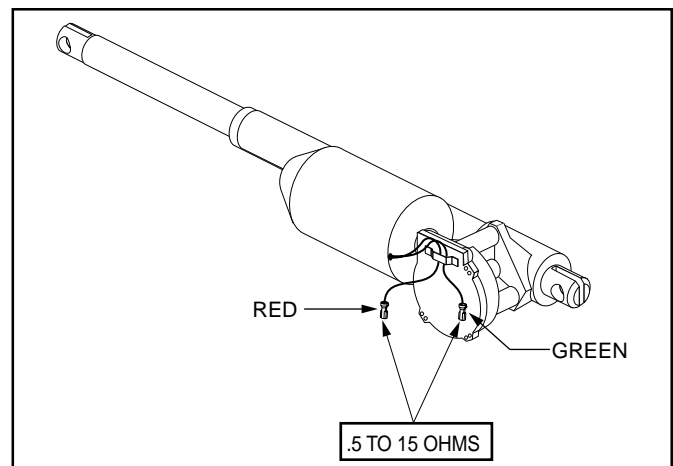

Figure 4.44. Dynamic Actuator with Harnesses
- If the readings were within tolerance on each Bus cable, move to the actuator assembly located under the tilt system. Disconnect the red and green wires on the actuator motor. Set the multimeter to measure resistance and take a reading from the red and green pigtails of the actuator motor. See figure 4.44. You should see between .5 to 15 ohms resistance.